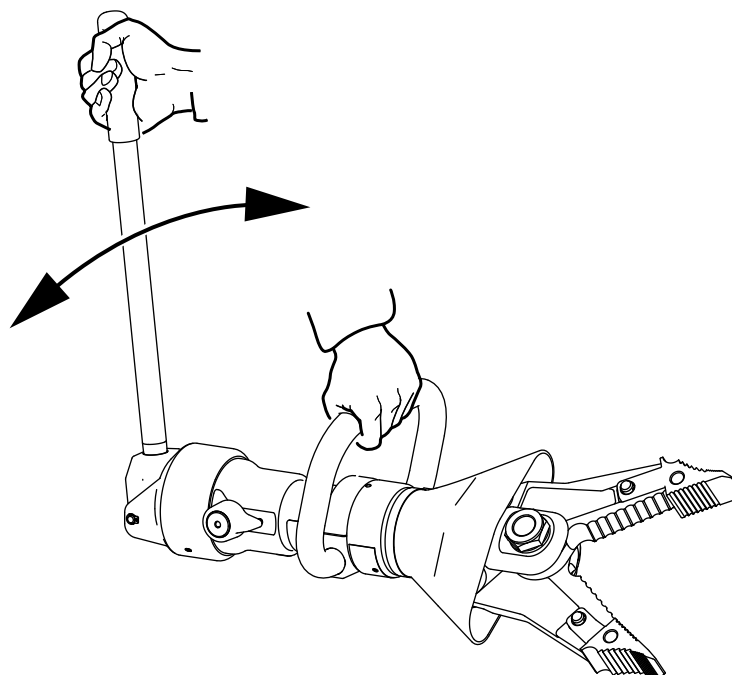

Fig. 5
- Operate the pump lever (Fig. 5)